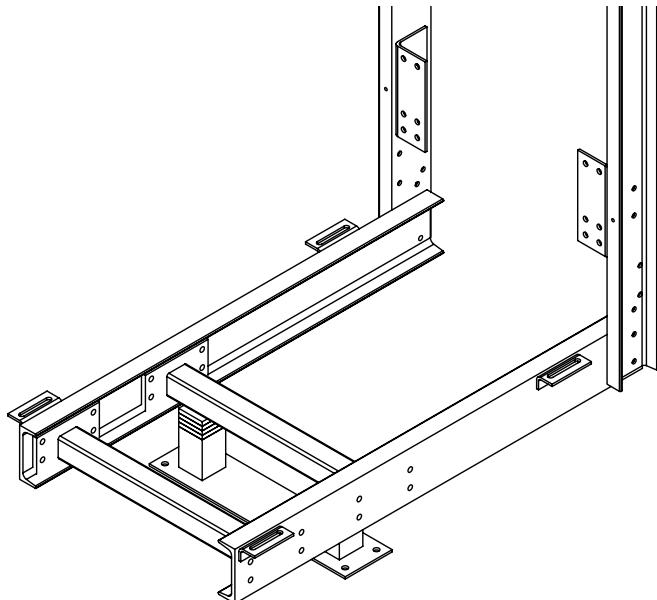

Figure 44 Bumper Shim Mounted
- 1) Position the bumper shim so that the buffer shims line up with the torsion bars on the cantilever arms (Figure 44).